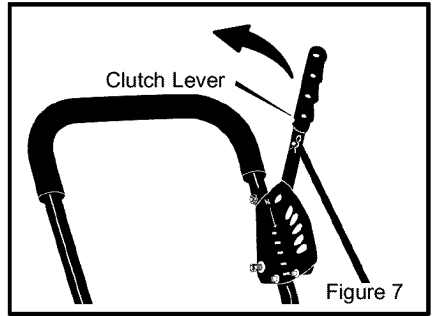

Figure 7
1. Move the **clutch lever** back to the DIS-ENGAGED position. Then, move the **throttle control** to SLOW, then to STOP (if equipped) See Figure 7.